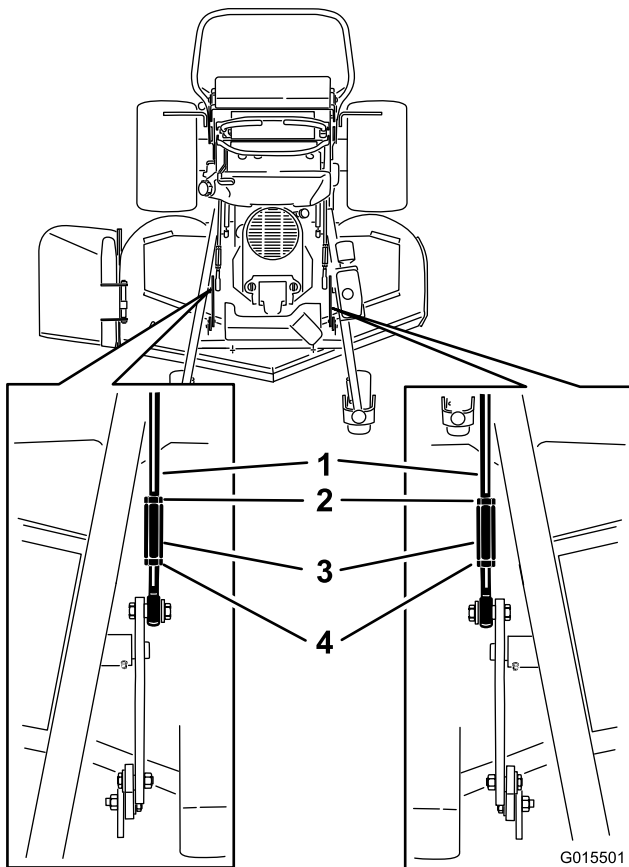

Figure 91
3. For 60 inch mower decks, loosen both the front and rear nuts and lift links on the adjustment rods (Figure 91).
5. For 60 inch mower decks, tighten the lift links (Figure 91).